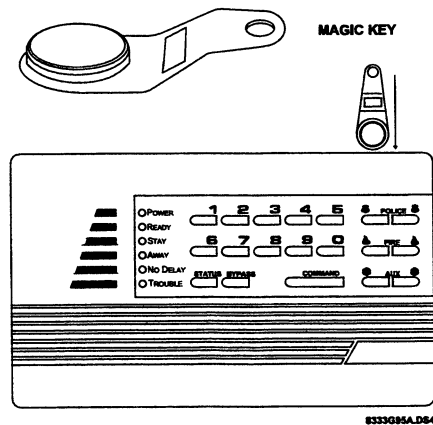

Figure 4. Inserting the Magic Key into the Slot
2. Insert the Key into the slot within 30 seconds of changing your primary access code (see Figure 4).
3. Insert the Key into the slot within 30 seconds of changing your temporary access code (see Figure 4).